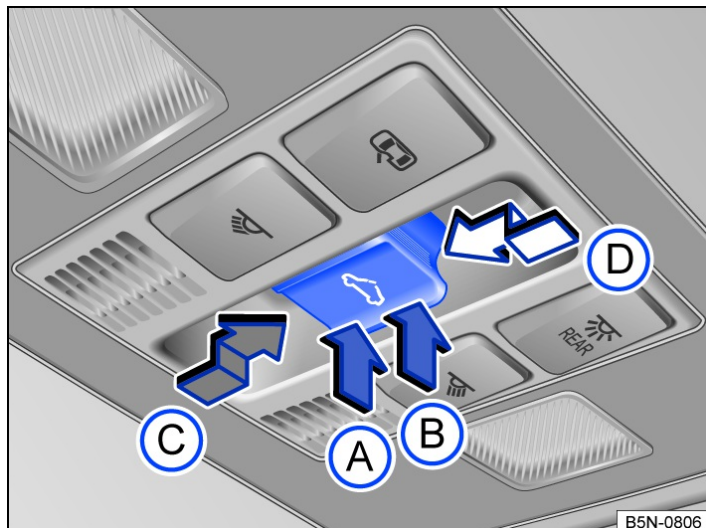

Fig. 1 In the headliner: sunroof button.
- Manual process: Press the → *fig. 1* (B) button to the first level.
- Automatic process: press the (B) button to the second level.